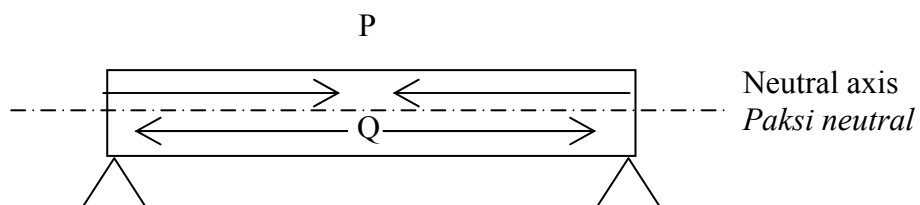

Figure 11
30. Figure 11 shows a concrete beam that is supported by two supports at both edges. State forces P and Q.